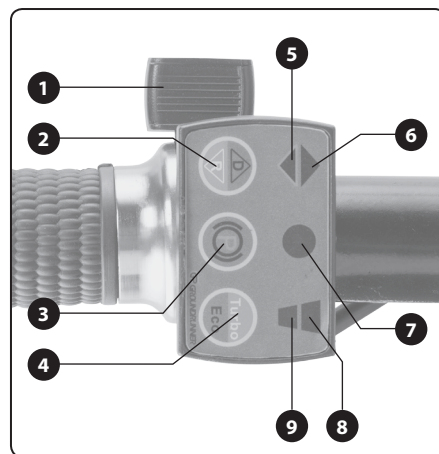

Fig. 23, position-description
- The electric drive is turned on using button (fig. 23, position 1), where the degree to which it is pressed regulates the speed. The rotation (travel) direction is set using button (fig. 23, position 2) and drive power (engine power) is set using button (fig. 23, position 4). Pressing button (fig. 23, position 3) will engage the brake and stop the motion of the wheelbarrow (block the rotation of the wheel). Further information about the el. drive settings are provided in the description of the control panel (fig. 23).